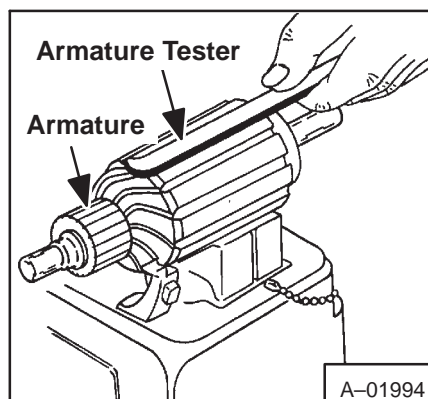

Fig. 6-15 Armature Testing (Shorts)
4. Check the armature on an armature tester (Fig. 6-15).